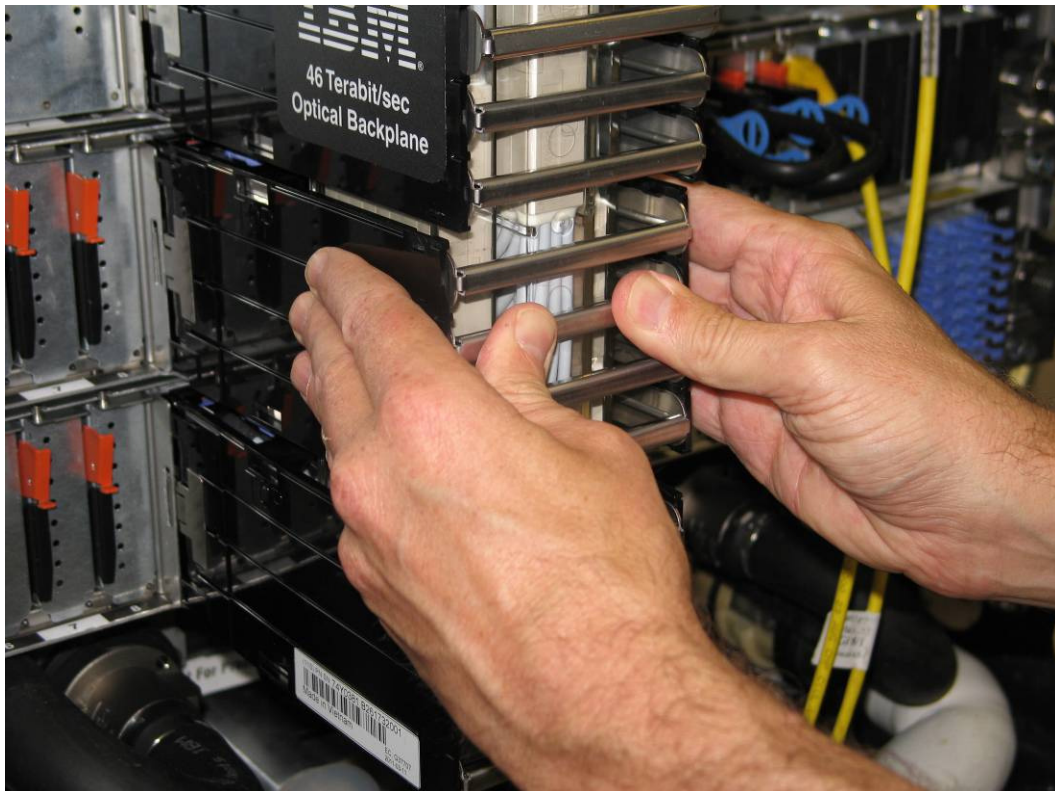

Figure 32 OBE Installation
- Once all 4 handles are slid forward with the L-Link connectors in the L-Ports of the adapters, do the final actuation of the handles, see Figure 32. This requires pushing the handle forward forcefully, hard enough to simultaneously seat the 12 connectors. It requires approximately 20 lbs of force for each handle to fully actuate all 12 connectors during insertion. When the connectors are fully actuated, an audible "click" will be heard, as all 12 connectors click into place.